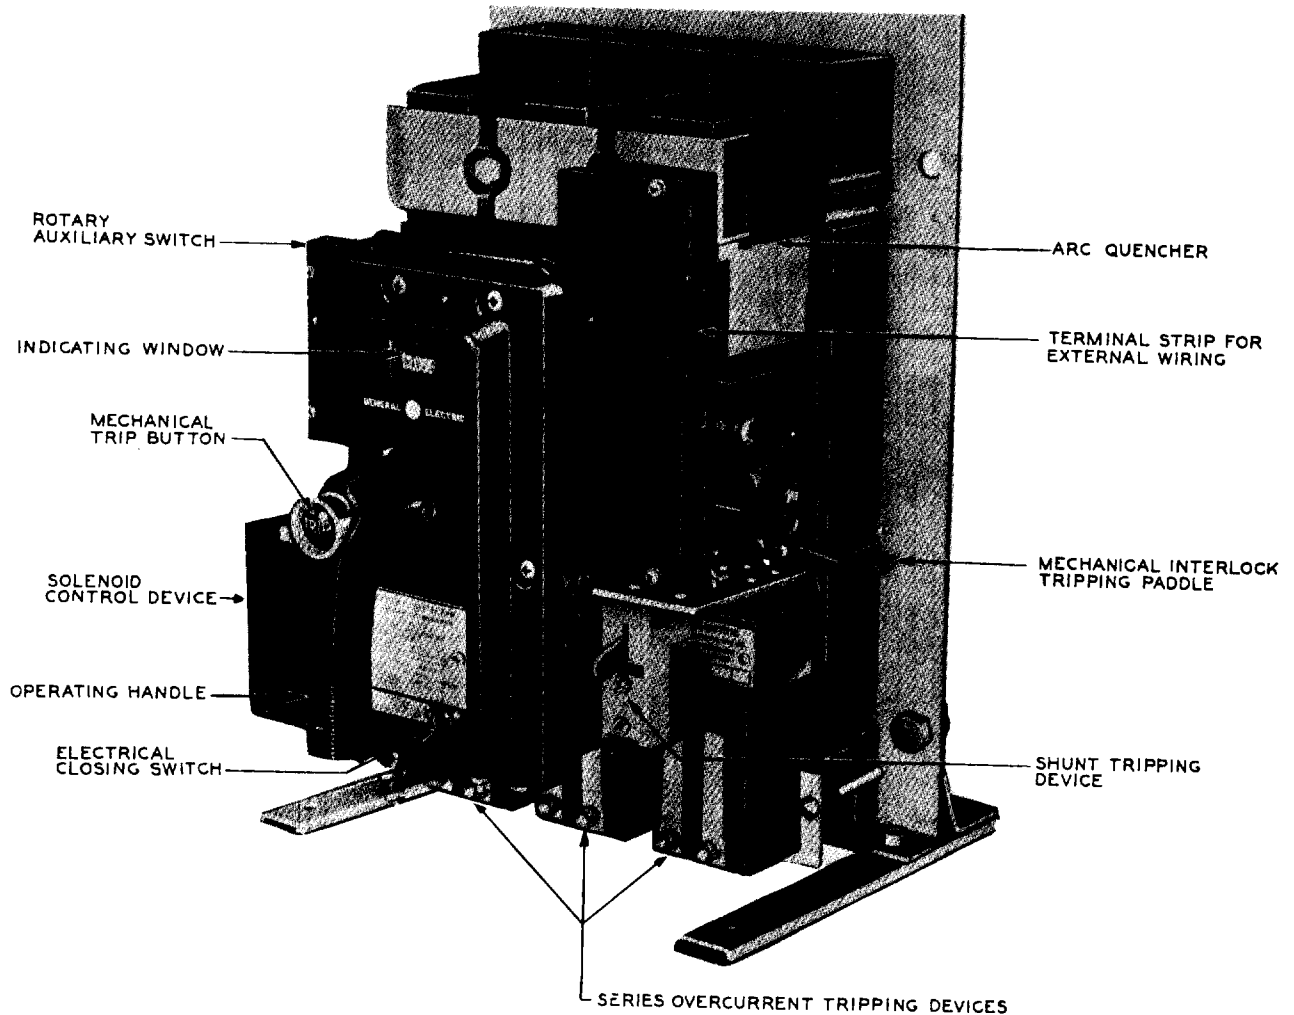

Fig. 1 - Brecker With Cover Removed
**\*#2.10 Closing Switch:** See Fig. 1 — Electrically operated breakers may be provided with a push button which, when depressed, should close the breaker.
**2.11 Closing Solenoid and Control:** See Fig. 1 — The closing solenoid and its control system may be actuated by the closing switch on the breaker or by a remote control switch, if provided. When actuated, the solenoid control system shall cause the closing solenoid to close the breaker promptly and, when closed, cause the closing solenoid to release.
**2.12 Shunt Trip Device:** See Fig. 1 — Check that this device trips the breaker open when the associated remote control switch is operated. For proper operation, an armature overtravel between 1/32 and 1/16 inch is required.
(2) To gain access to the main contacts, remove the front cover by unclasping the four fasteners on the case or loosen bolts at bottom and unhook cover. This will trip the breaker open. Remove the arc-quencher front clamp using a 7/16-inch open-end wrench to unscrew the two holding bolts. (See tops of Figs. 1 and 2.) Bend out the steel fingers of